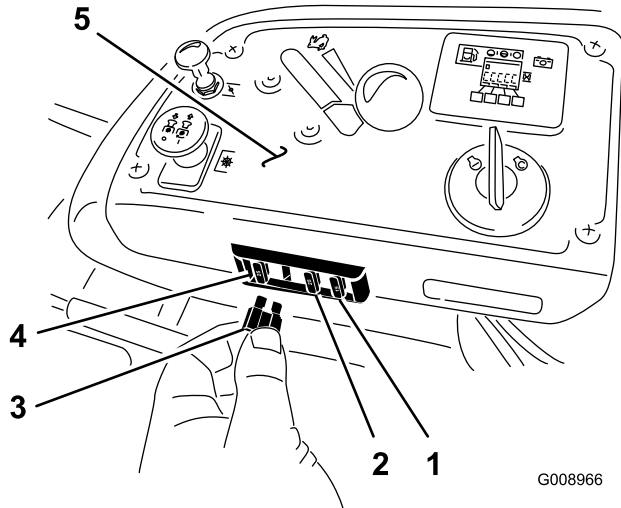

Figure 54
1. The fuses are located on right hand console next to the seat (Figure 54).
3. Install a new fuse (Figure 54).